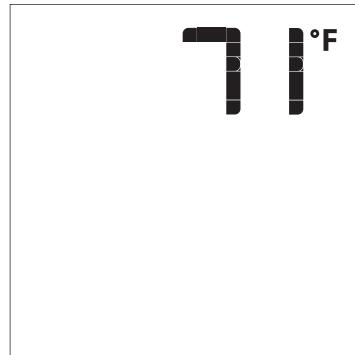

Figure 60
4. With the system ON , press the ON/OFF Key on the Transmitter. The Transmitter LCD display will show the room temperature. See **Figure 60**. At the same time the Receiver will turn off the appliance.